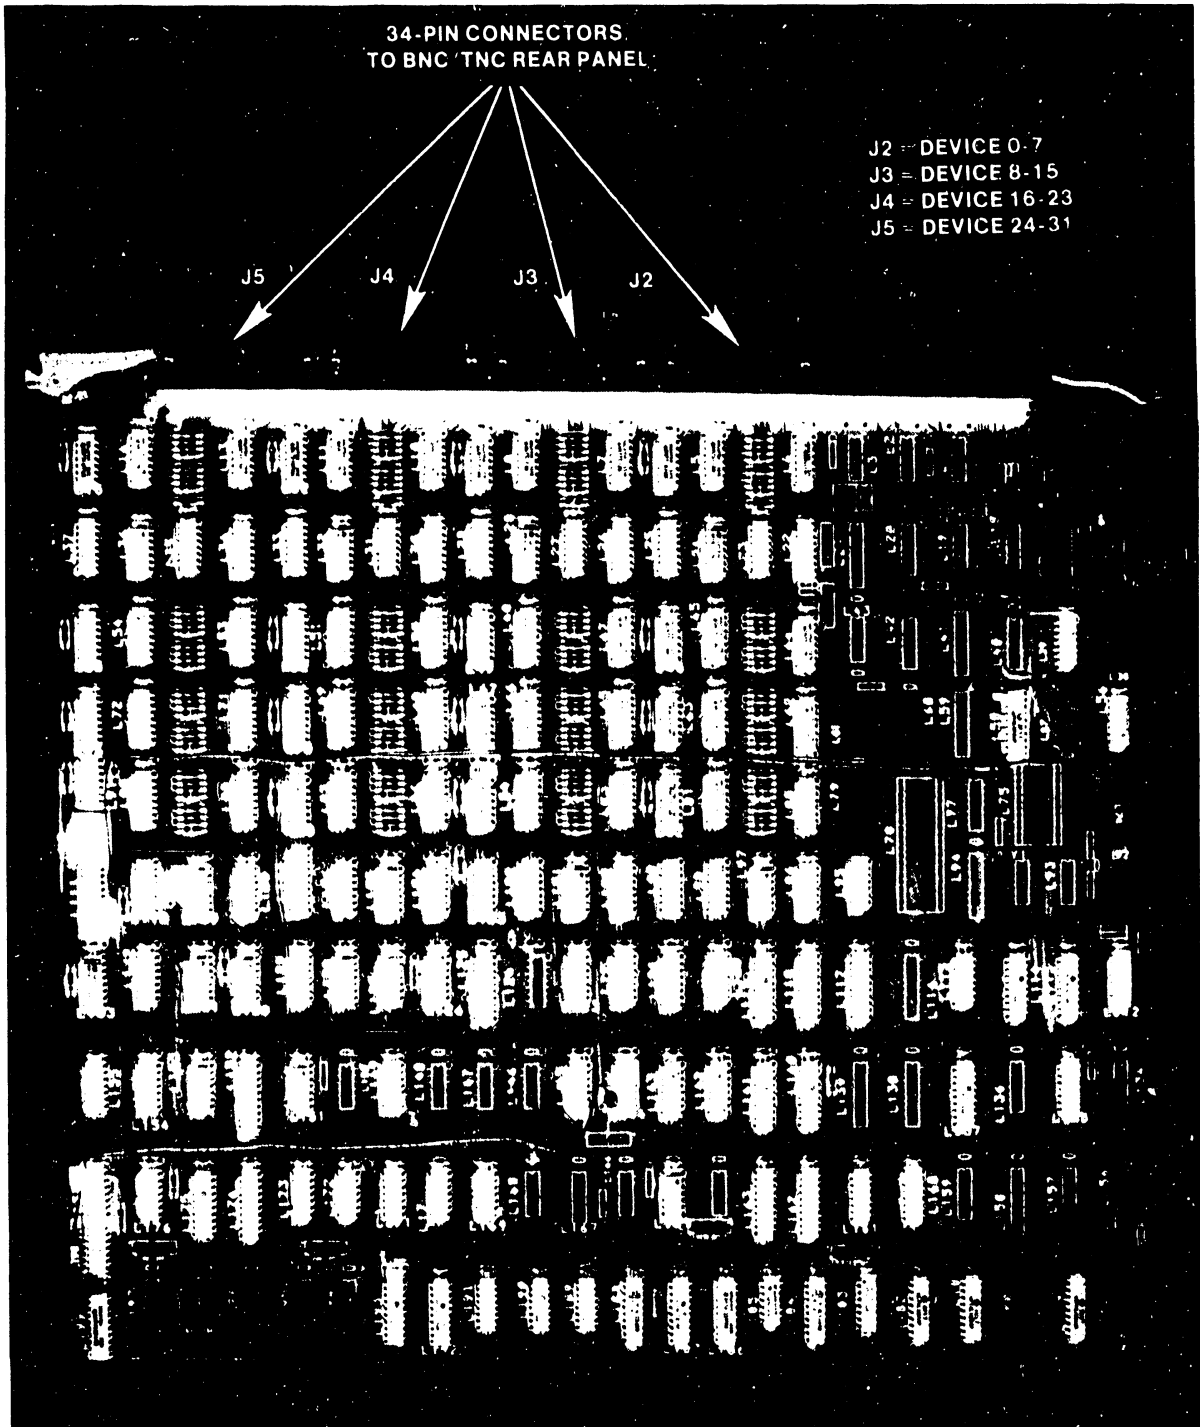

Figure 5-7. 210-7906 Serial I/O Adapter
5. Remove all connectors from the top of the Serial I/O Device Adapter (figure 5-7) in Motherboard slot #4 (I/ODA1). Note the position of all connectors for later reassembly.